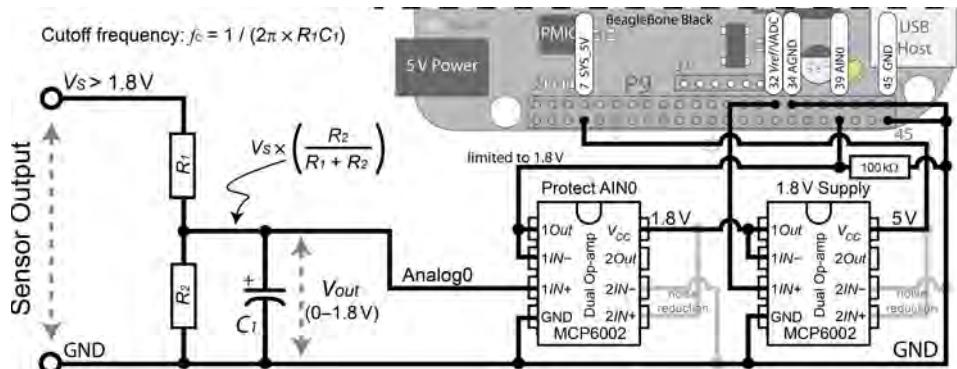

Figure 9-11: Scaling an input signal using voltage division with op-amp ADC protection in place
Figure 9-11 illustrates a voltage division circuit and its integration with the 1.8V op-amp protection circuitry discussed in the last section. Voltage follower circuits also act as *buffer* circuits. The maximum input impedance of the AM335x ADC inputs ranges from about $76\text{k}\Omega$ at the highest frequencies to many megaohms at low frequencies.¹ The voltage divider circuit will further load the sensor output impedance (perhaps requiring further unity-gain buffers before the voltage divider). However, the MCP6002 will act as a buffer that prevents the sensor circuit from exceeding the maximum input impedance of the ADC (remember that ideal voltage follower circuits have infinite input impedance and zero output impedance). There are some important points to note about this circuit:
- With multi-op-amp packages, unused inputs should be connected as shown in Figure 9-11 (in light gray) to avoid random switching noise.